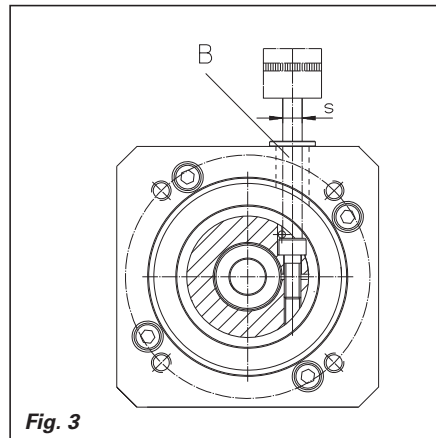

Fig. 3
- Tighten clamping screw (3.30.160) if adapter shaft also clamping screw (3.40.080) at the clamping ring. To do this, put the extension piece of the torque spanner through the assembly hole (B) (Fig. 3). Tightening torque  $M_A$  as per table.